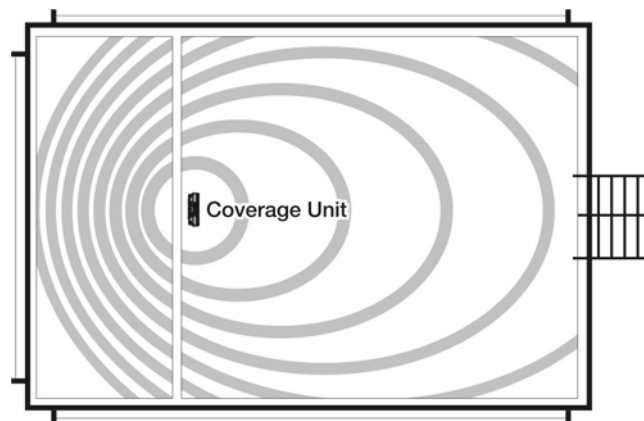

Figure 2.9: Back and front coverage pattern
When mounting the CU on a ceiling, the unit should be positioned in the middle of the area to be covered side-to-side, and off-centered front-to-back. Figure 2.9 shows the coverage area when the CU is mounted closer to the center of room or if mounted on a typical interior drywall partition. The back coverage area is reduced further if the partition wall is constructed of a dense material such as concrete or brick.
- the Auxiliary CU should be positioned in the middle of the coverage area, side-to-side, and off-centered slightly front-to-back, approximately as shown in Figure 2.9.